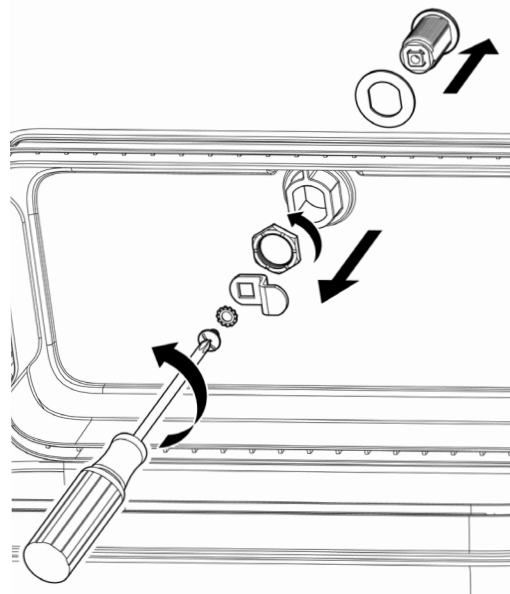

Figure 3: Removal of existing lock core and hardware
- b. Use a 22 mm or adjustable wrench to turn the nut on the lock core counter-clockwise to loosen it.** Then remove the nut, large washer, and existing lock core from the outside of the accessory by hand (Figure 3). Reuse or recycle these parts according to local rules.